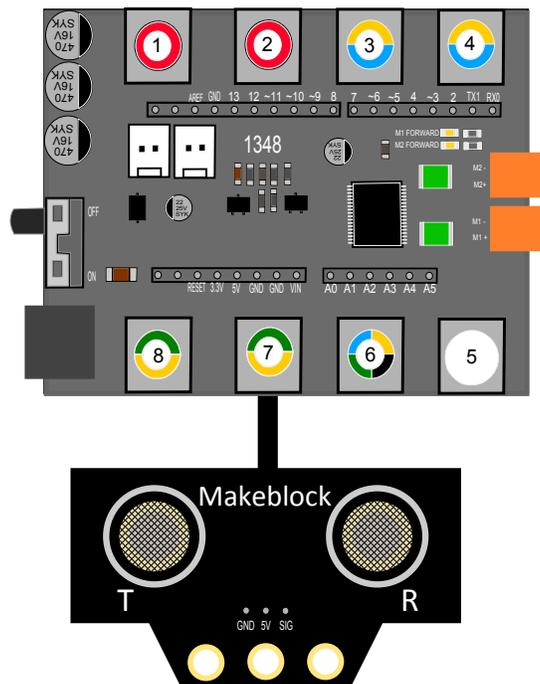

Figure 2: Ultrasonic Sensor Connection
1. Attach the MakeBlock shield to the Arduino UNO. Connect the Ultrasonic sensor as seen in Figure 2.